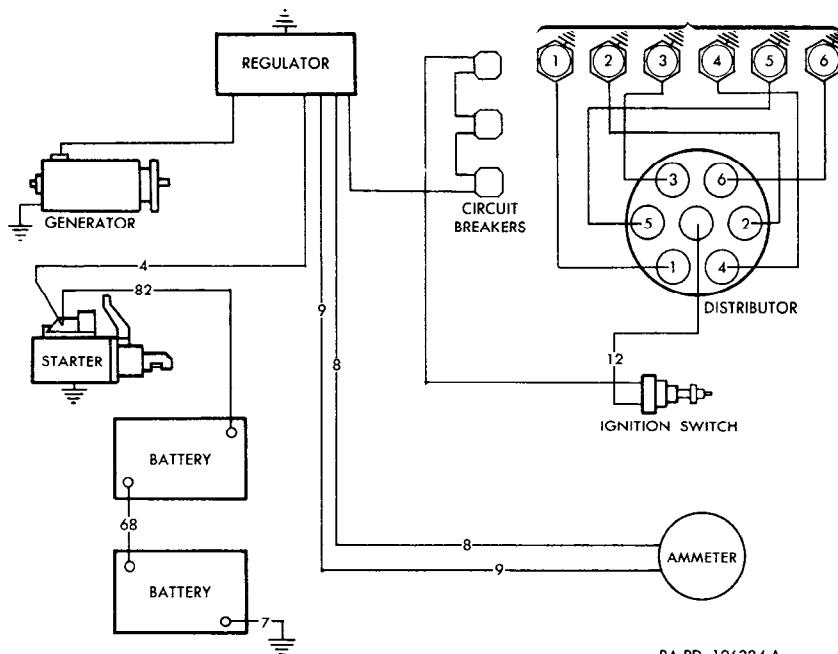

Figure 91. Ignition system wiring diagram.
a. *Description.* The ignition system (fig. 91) includes the distributor and coil assembly, the spark plugs, ignition switch, and the necessary connecting cables and wiring. A 24-volt system operates on current from the two 12-volt batteries. The ignition switch, when turned on, completes the circuit to the ignition system. All components of the ignition system are waterproofed for fording operation.
- (2) Insert each spark plug cable elbow terminal in its spark plug. Be sure to connect each cable to the correct plug, following the firing order shown in figure 91. Tighten cable elbow nuts.
- (3) Install the conduit clamp around the cables and install a $\frac{1}{4}$ -20NC x $\frac{1}{2}$ bolt, $\frac{1}{4}$ -inch lockwasher, and $\frac{1}{4}$ -20NC nut. Tighten the nut.
- (3) Install the spark advance arm screw through the slot in the spark advance arm and into the tapped hole in the cylinder block. Tighten the screw fingertight.
- (4) Connect the two vent lines at the elbows in the distributor base, tightening the vent line nuts.
- (5) Install the No. 1 spark plug. Insert the spark plug cable elbow terminals in the spark plugs. Be sure to connect each cable to the correct plug, following the firing order shown in figure 91. Tighten the cable elbow nuts. Adjust the ignition timing (par. 126).